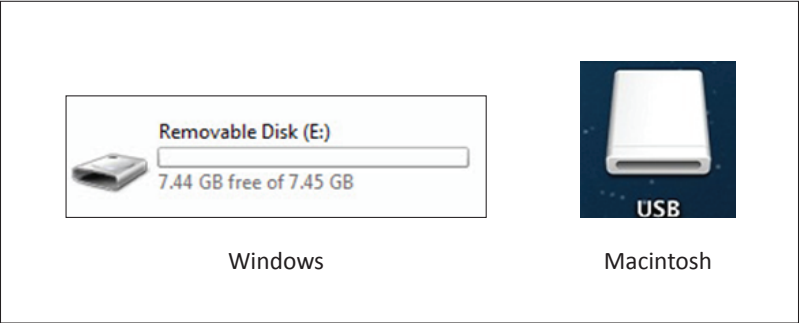

Figure E9. Icons for USB stick.
- 1) Insert an 8 GB USB memory stick into an empty USB slot in your personal computer. **WARNING: All data on the USB stick will be erased during this process!** You should see a new **Removable Disk** under **My Computer** (Windows) or a new **Drive** on your **Desktop** (Macintosh), as shown in figure E9.